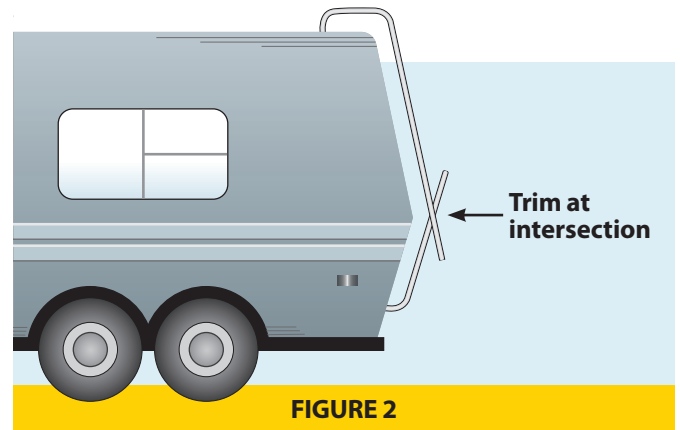

FIGURE 2
5. Attach (2) Roof Mount Brackets (**Part 6**) through the holes at the end of the upright tubes, using (2) #10-24 x 37 mm bolts (**Part 7**).
6. Attach the Roof Mount Brackets to the roof of your RV, using (4) #10 Sheet Metal Screws (**Part 7**). Be sure to anchor them into backing/framing.
7. Attach the top (2) 5" Standoff Assemblies (**Part 4**) to your RV, using (8) #10 Sheet Metal Screws (**Part 7**). Be sure to attach where your RV ladder and the backing/framing locations coincide. You can turn the standoff mounting plate to best align with the structural backing in your RV. These standoffs should meet your ladder uprights between the top two treads.
10. Keeping 5" spacing between the ladder and the rear wall of your RV, mark the ladder tubing where the Bottom J-Shape and Middle Straight Ladder Sections meet. Trim excess ladder tubing, using a hacksaw or tube cutter. See **Figure 2**